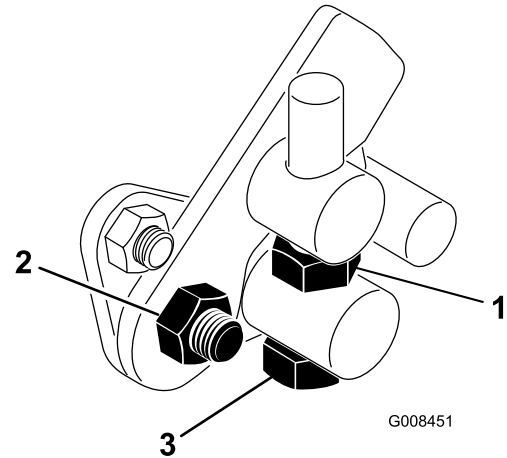

Figure 41
4. Tighten the jam nut on the trunnion bolt and the nut on the pedal pivot to lock the adjustment (Figure 41). Check the adjustment and adjust as required.